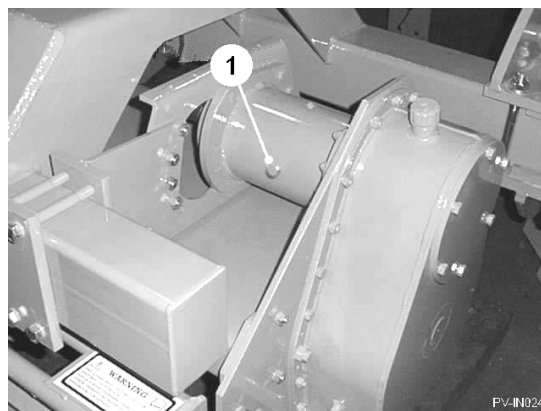

Fig. 14
The jackshaft oil levels are checked by removing the level plug (item 1, fig. 14). Oil level should be to the bottom of the hole with the machine level.